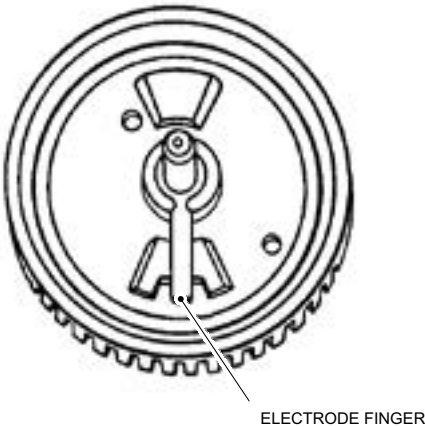

Figure 3.3.9A
- 2. Inspect the electrode finger for looseness. The electrode must be held securely to the shaft when tested with light finger pressure. A loose condition requires gear replacement. (See Figure 3.3.9A).